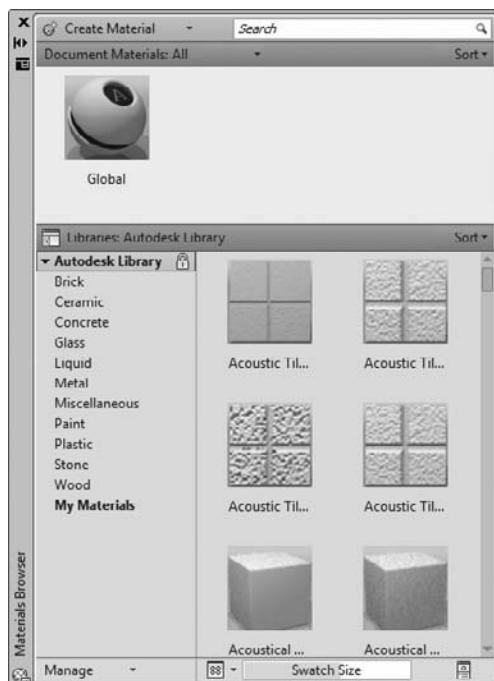

FIGURE 17.25 The Materials Browser palette
1. Click the Render tab, and then click the Materials Browser button in the Materials panel to open the Materials Browser palette shown in Figure 17.25.